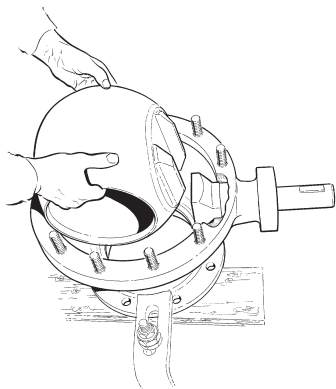

Fig. 5. Lifting the ball with the valve in closed position - here with the valve on a work bench, but it can be done with mounted actuator.
3. Remove the body half (2).
4. Remove the ball, which is easy to carry out when the valve is in the closed position - Fig. 5.